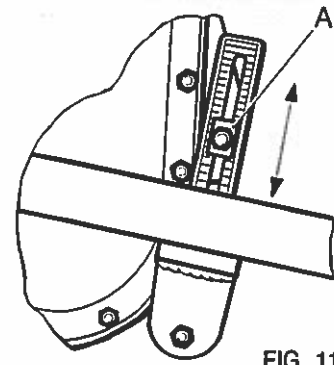

FIG. 11
- ALLENTARE I BULLONI DI BLOCCAGGIO (FIG. 11 POS. A)
- RELEASE LOCKING NUTS (FIG. 11 POS. A)
- DESERRER LES BOULONS DE SERRAGE (FIG. 11 - POS. A)
- SPERRBOLZEN LOCKERN (FIG.11 - POS A).
- AFLOJAR LOS PERNOS DE BLOQUEO (FIG. 11 - POS. A)